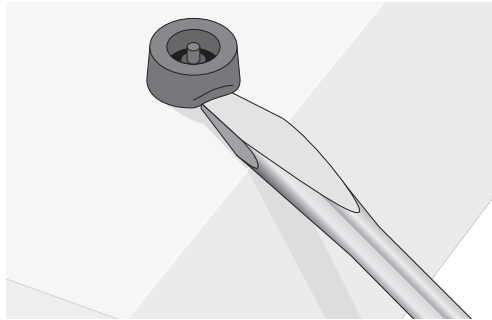

Figure 7. Removing the Feet
2. Using a flat-head screwdriver, remove the snap-on plastic feet from the bottom of the switch, as shown in Figure 7.
2. Using a flat-head screwdriver, remove the snap-on plastic feet from the bottom of the switch, as shown in Figure 7 on page 39.